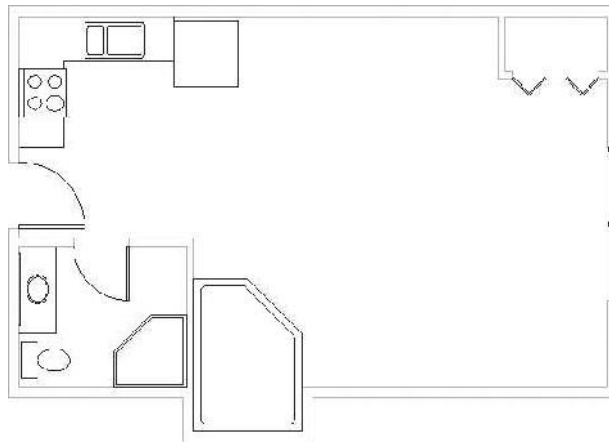

FIGURE 6.33: The floor plan without the deck shown
9. Collapse or close the Layer Properties Manager or simply move it out of the way. Both the deck (A-DECK) and the stairs leading up to the deck (A-DECK-STRS) are invisible (see Figure 6.33).